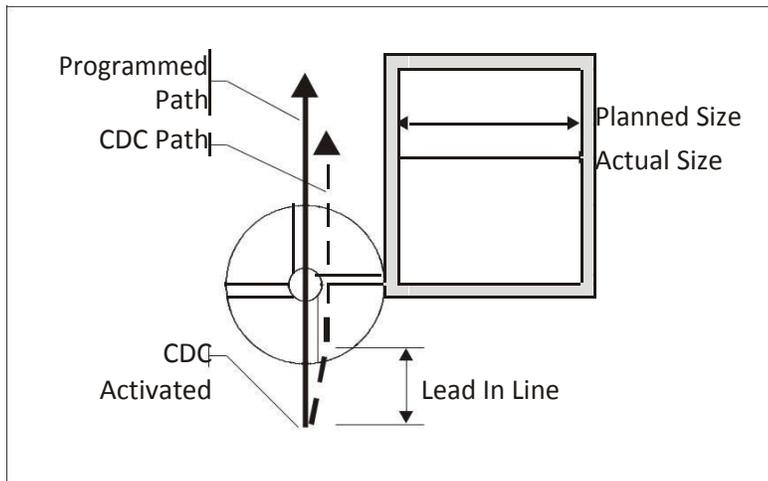

Figure 7: Cutter Diameter
- A ramp plunging move as shown in Figure 7 is the most efficient way to mill a slot.